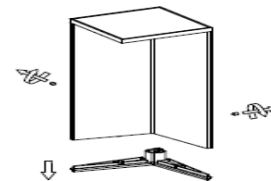

Fig.3
- Drill 2 holes in the ground and insert the expansion anchors, Install the base plate with the screws provided. (Fig. 3)